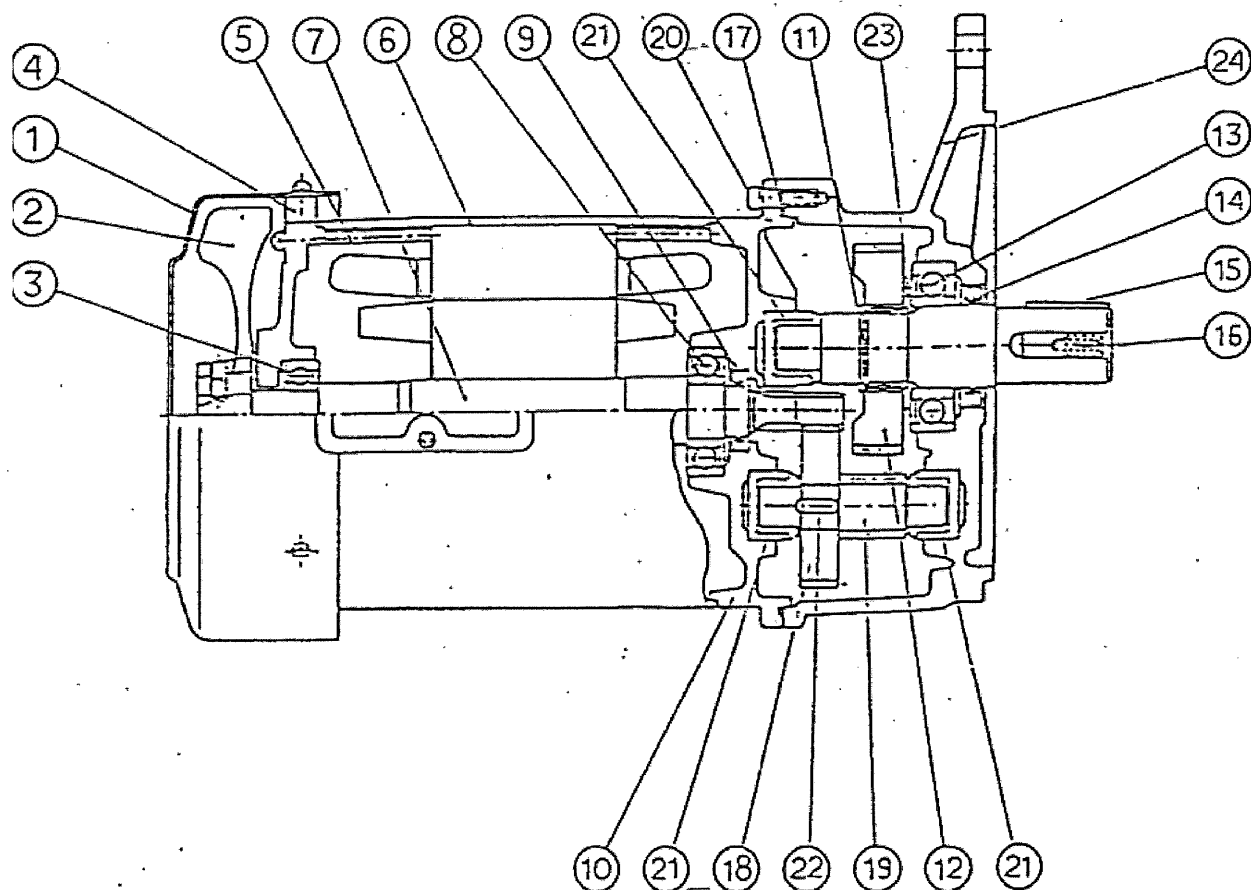

Fig.8
(1) As for sectional assembly drawing of the gear-motor, refer to Fig.8